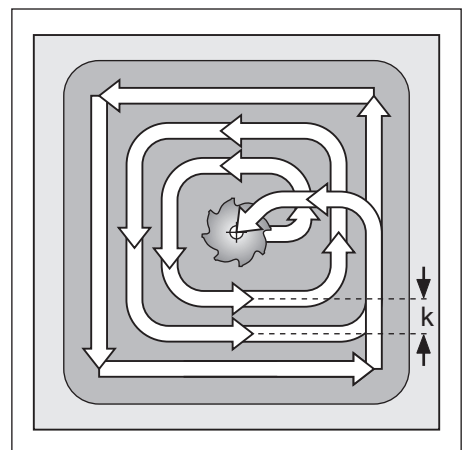

Fig. 8.10: Tool path for roughing-out
- the tool subsequently follows the programmed path at the specified feed rate (see figure 8.10)